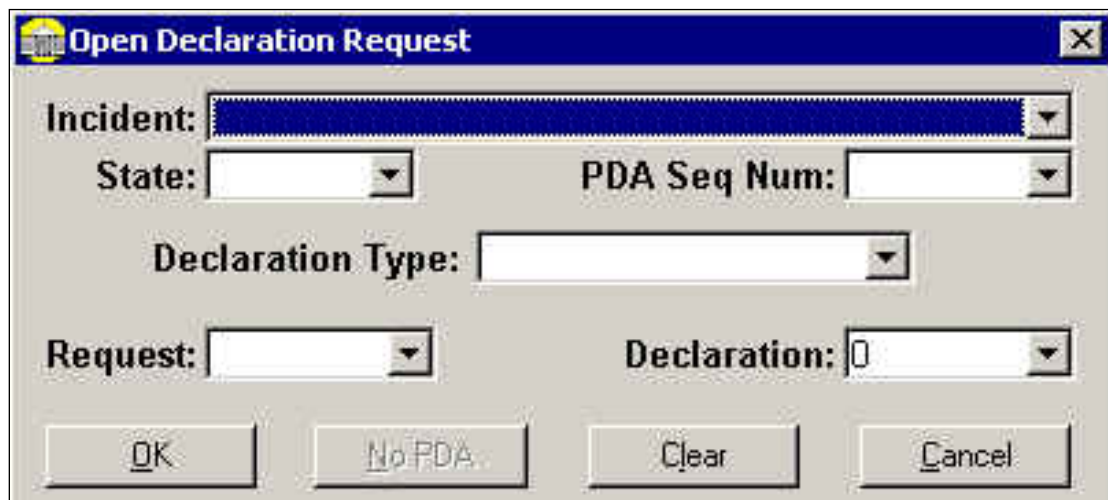

Figure 3-13: Open Declaration Request Dialog Box
2. On the Declaration menu bar, click File > Open. The Open Declaration Request dialog box is displayed (Figure 3-13).